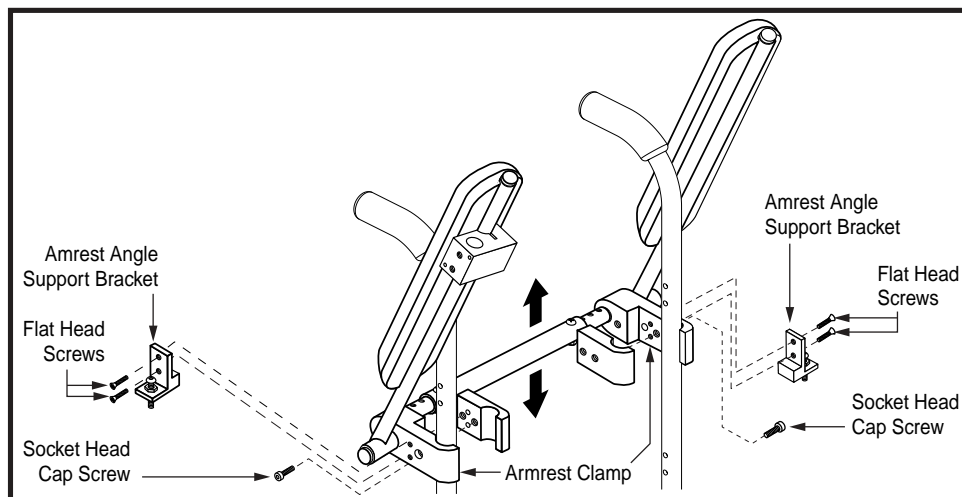

Figure 13. Flip-Up Armrest Height Adjustment
3. Loosen or tighten the button head screw located on the armrest angle support bracket. Loosening the button head screw will increase the armrest angle; tightening the button head screw will decrease the armrest angle. See figure 13.
2. Loosen the jam nut located on the armrest angle support bracket. See figure 13.
4. Remove the two (2) flat head screws from the armrest angle support bracket, then remove the bracket. See figure 13.
5. Remove the socket head cap screw from the armrest clamp. See figure 13.
7. Reinstall the socket head cap screw to the armrest clamp. See figure 13.
8. Replace the armrest angle support bracket, then reinstall and tighten the two (2) flat head screws. See figure 13.